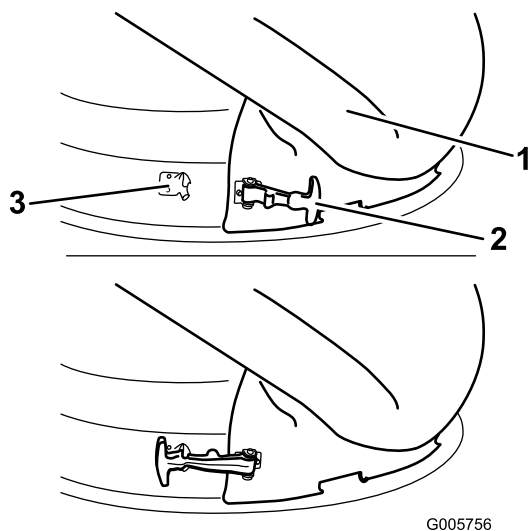

Figure 24
- Secure the chute to the 50 inch deck. Hook the flexible latch on the chute to the retaining clasp welded on the mower deck to the rear of the opening (Figure 24).